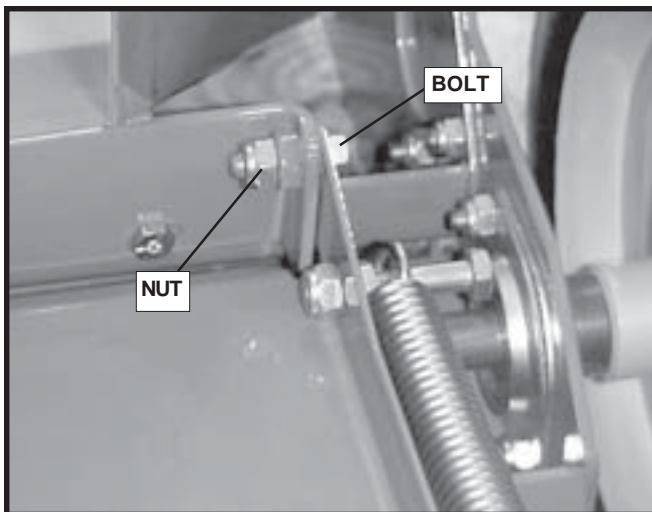

FIGURE 7
18. Place door in position and set the hinge bolts. DO NOT tighten the bolts, leave 1/16" space. Thread nut on to the bolt. See Figure 7